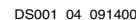

Figure 6: Spartan-IIe CLB Slice (two identical slices in each CLB)
The basic building block of the Spartan-IIE FPGA CLB is the logic cell (LC). An LC includes a 4-input function generator, carry logic, and storage element. The output from the function generator in each LC drives the CLB output or the D input of the flip-flop. Each Spartan-IIE FPGA CLB contains four LCs, organized in two similar slices; a single slice is shown in Figure 6.